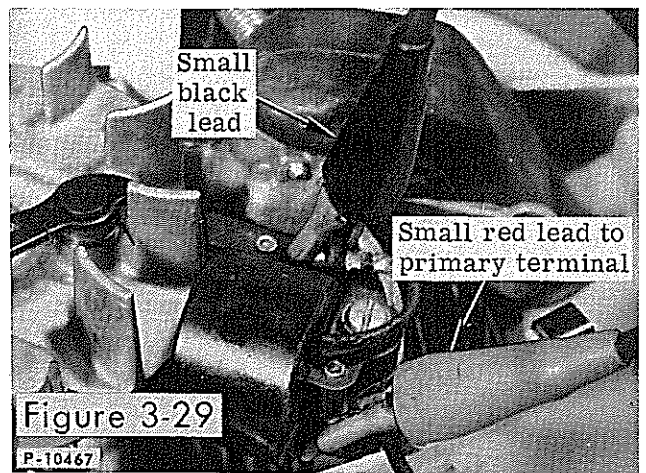

Figure 3-29
- Disconnect the primary wire from the coil and hold the small red lead in contact with the coil primary terminal on the coil (Figure 3-29).